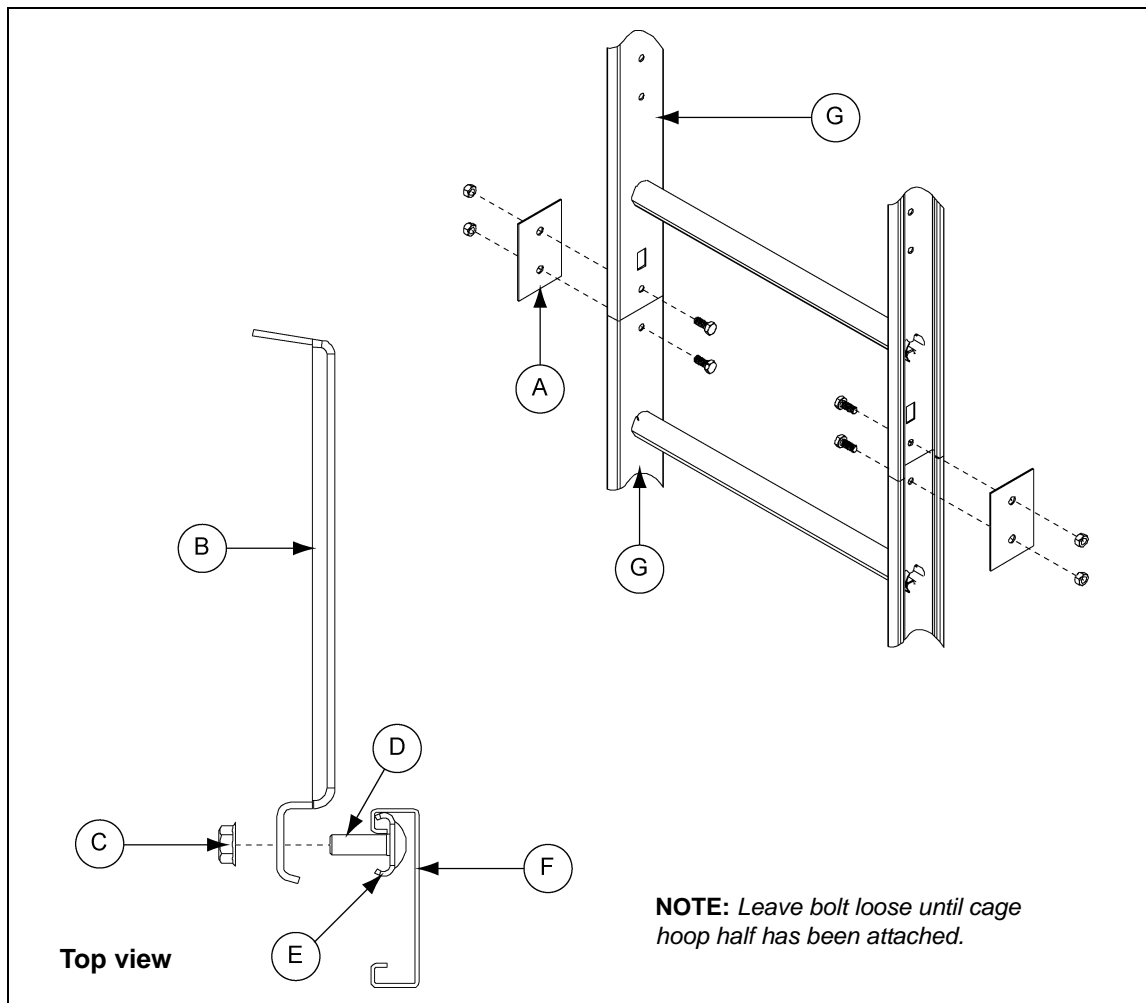

Figure 8L
Two (2) splice plates are required to attach each additional ladder section. The head of the bolt should be to the inside of the ladder with the splice plate on the outside as shown in Figure 8L. Use 5/16" x 1" bolts for all connections.